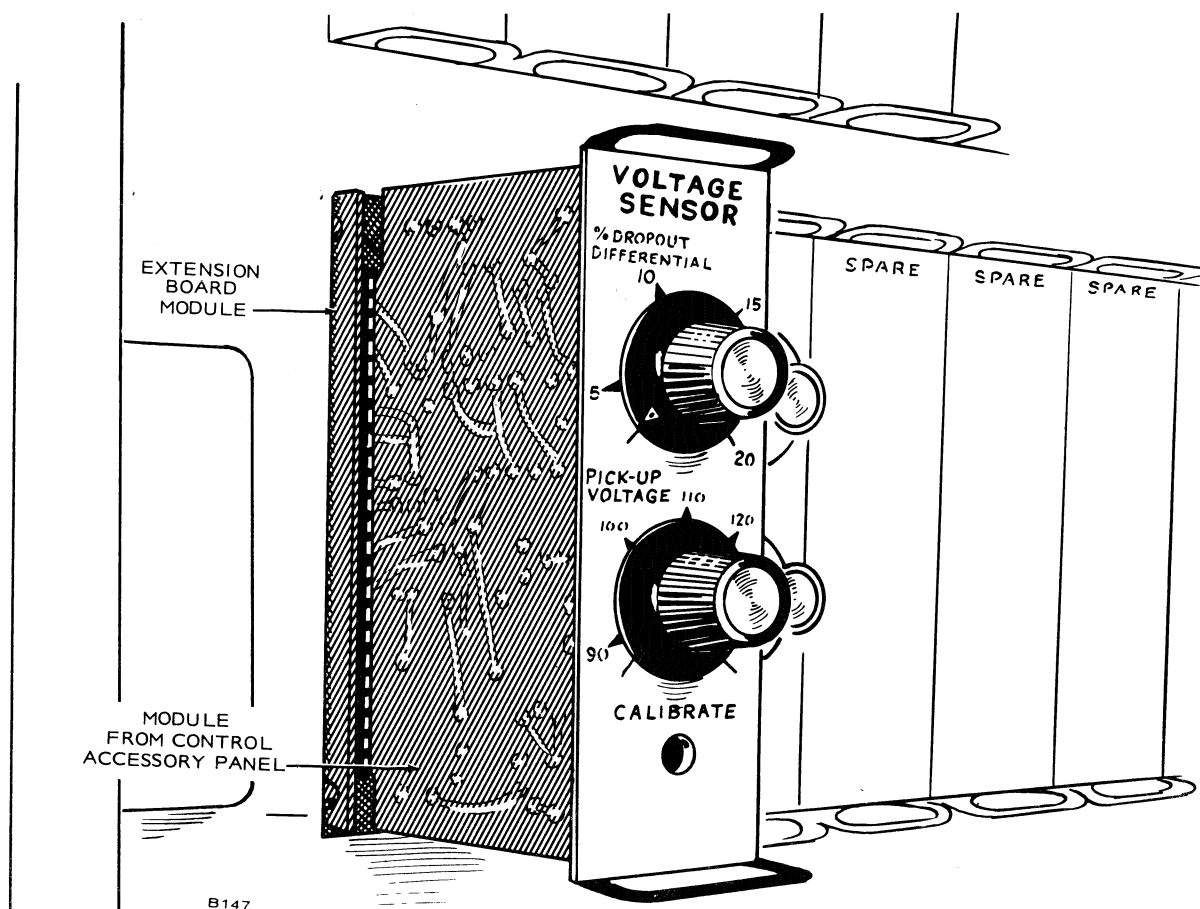

FIGURE 39. EXTENSION BOARD MODULE IN CONTROL ACCESSORY PANEL
8. Insert module removed in Step 5 into the back of the extension module (Figure 39).